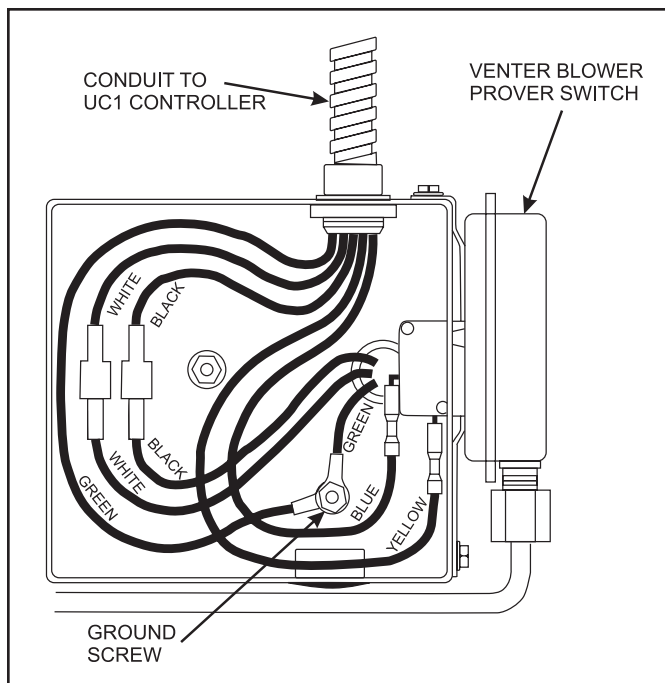

Figure 9. Connections at the Power Venter Blower Junction Box
4. Connect the wires as follows (see Figure 9):